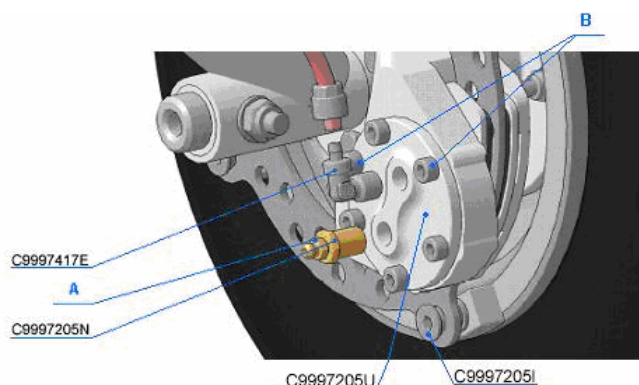

Fig. 5
1. drain off brake fluid completely (put a can under the wheels to collect drained fluid, and unscrew the connectors A (Fig. 5) on both wheels 1 to 2 turns by a 7x8 wrench.
2. Unscrew the connector A 1 to 2 turns on the right wheel using a 7x8 wrench (Fig. 5).
4. Tighten the connector A (Fig. 5) using a 7x8 wrench up to torque 80 lb-in / 9 Nm). Disconnect the syringe.
6. Screw in the connector A (Fig. 5) by a 7x8 wrench.
8. Unscrew the connector A 1 to 2 turns by a 7x8 wrench (Fig. 5).
11. Screw in the connector A by a 7x8 wrench (Fig. 5).
15. Unscrew the connector A (Fig. 5) 1 to 2 turns by a 7x8 wrench.
18. Tighten the connector A (Fig. 5) up to torque 80 lb-in / 9 Nm by a 7x8 wrench. Disconnect the syringe.